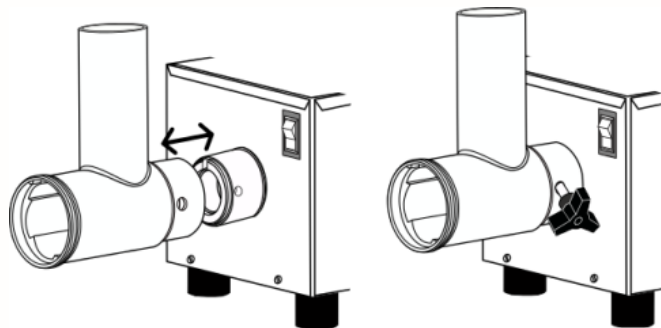

FIG. 2 CORRECT POSITION FOR THE KNOB
- 2.- Release the headstock (8) by turning the knob (10) counterclockwise and pull the headstock backward to remove it from the equipment. (see Fig 2).
- a) After assembling the headstock (8), turn the knob (10) clockwise to fix the headstock (See Fig 2).
- b) The knife (5) must be inserted into the worm's shaft. The sharp end must face forward.
c) Place the plate (4) centered against the knife (5) assuring the notch matches the Headstock's inserted pin.